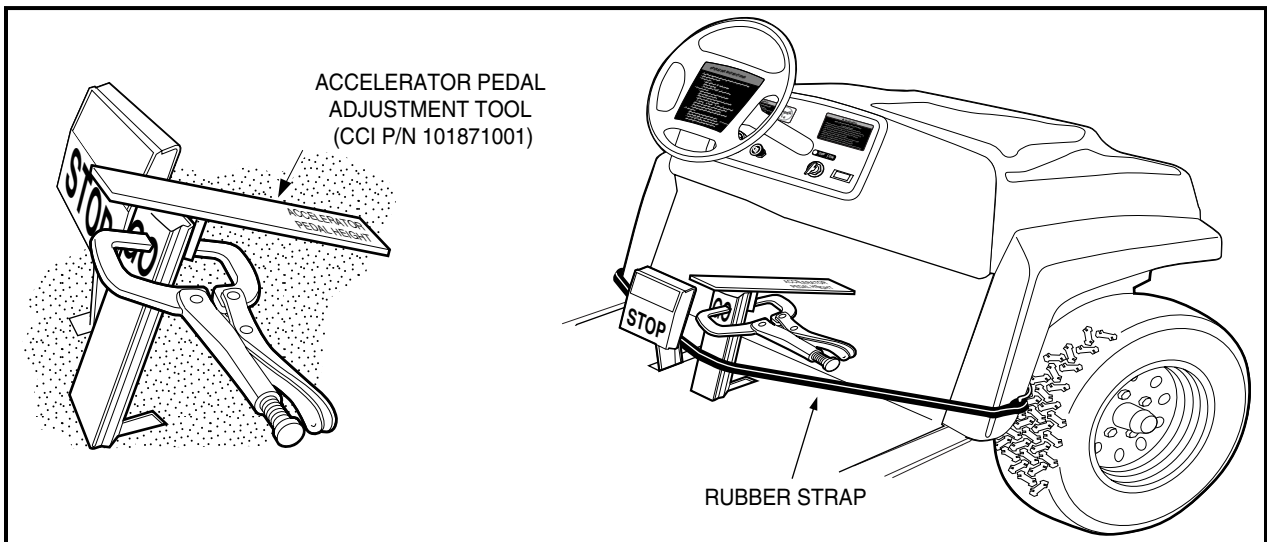

Figure 5-9 Accelerator Pedal Height Adjustment
- 5.1. Clamp the accelerator pedal adjustment tool (CCI P/N 101871001) to the accelerator pedal, with the end marked **accelerator pedal height** closest to the floorboard (**Figure 5-9, Page 5-7**).